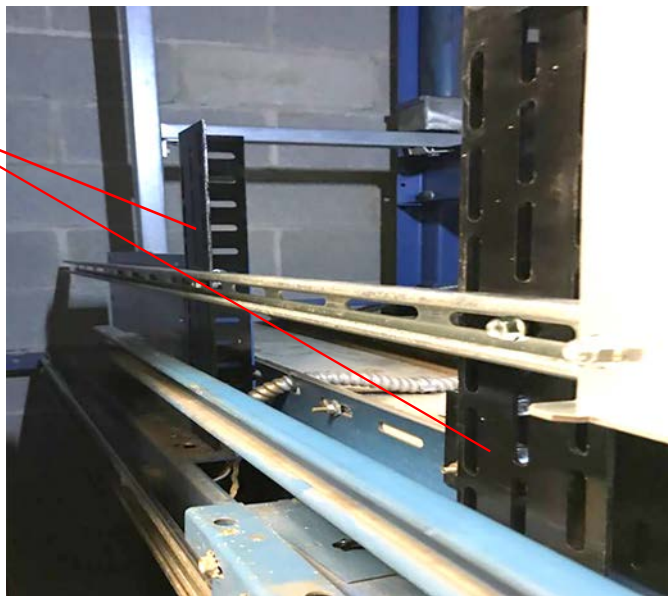
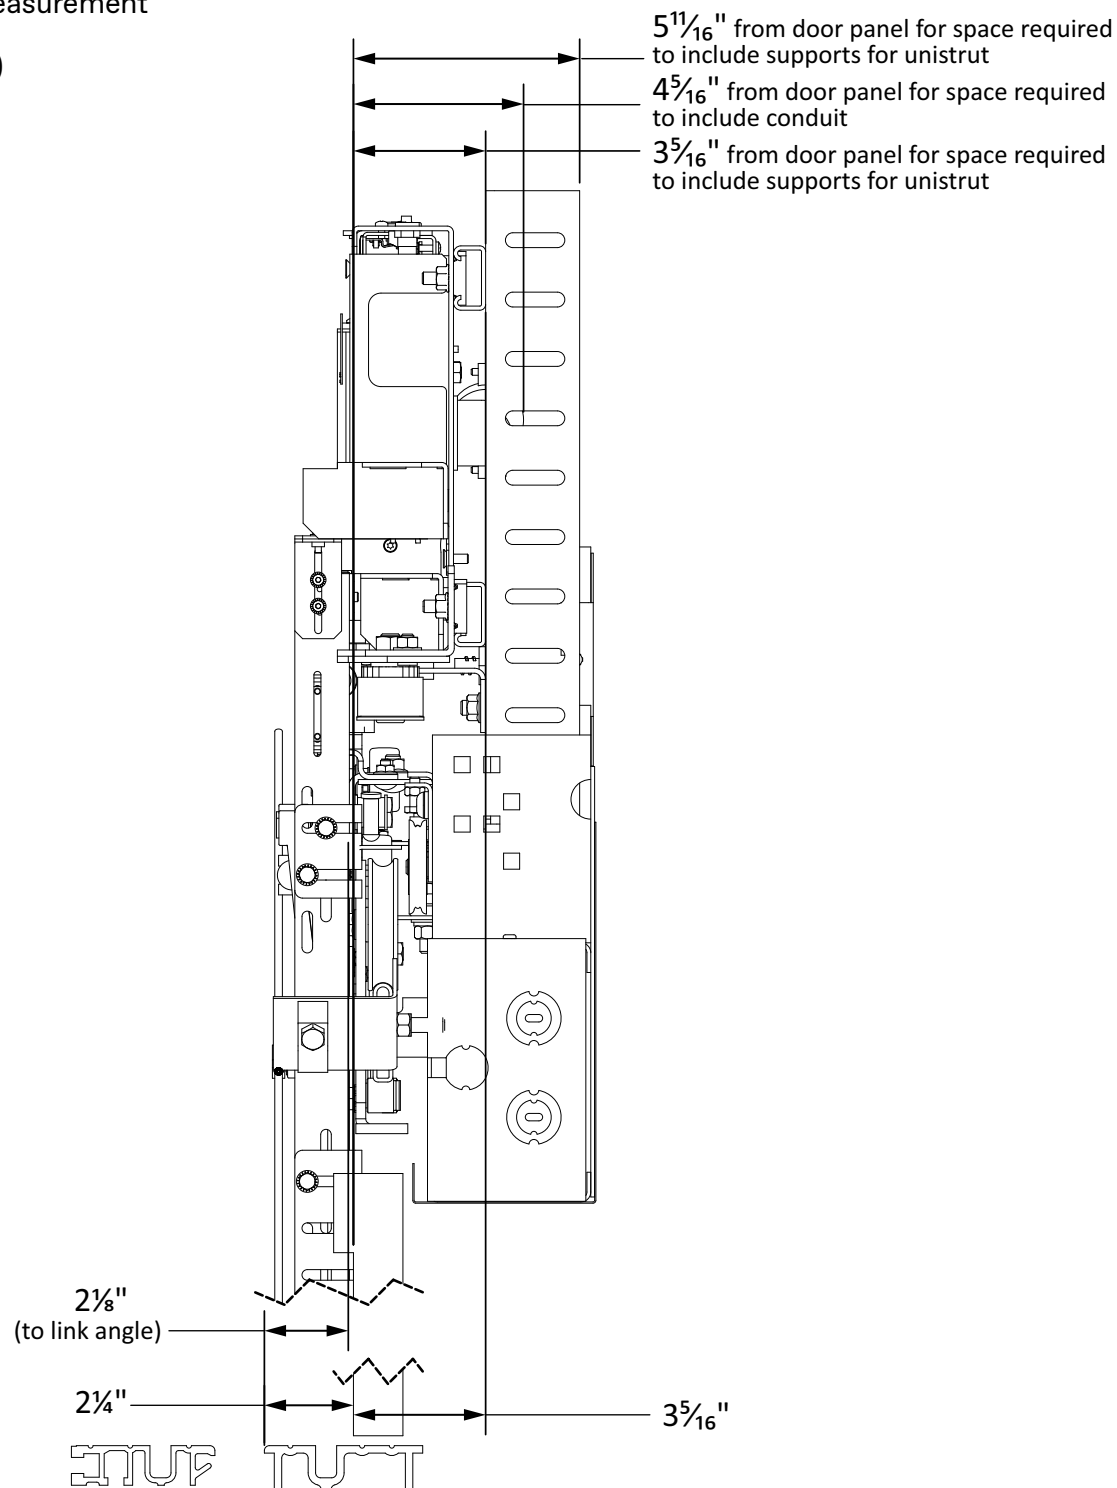

Figure 2 - Install Support Angles
Figure 3 - Support Angles Measurement Reference
- a. Use the included hardware to attach the support angles to the existing door operator header. See Figure 2 below and Figure 3 on page 13.